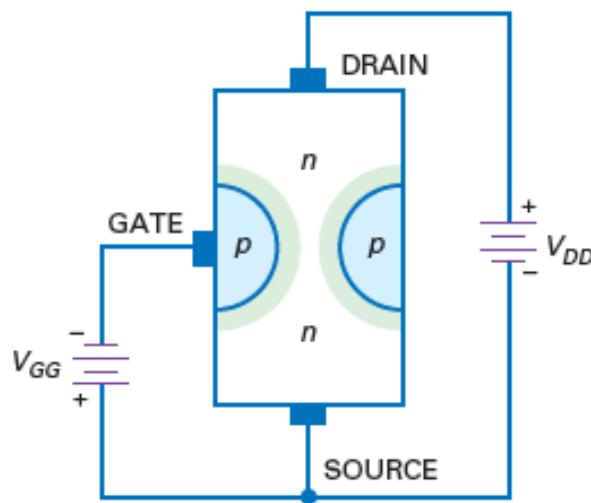

Figure-2 Normal biasing of JFET
- Figure-2 shows the normal biasing voltages for a JFET. The drain supply voltage is positive, and the gate supply voltage is negative.
- In Figure-2, the p-type gate and the n-type source form the gate-source diode. With a JFET, we always reverse-bias the gate-source diode.
- In Figure-2, electrons flowing from the source to the drain must pass through the narrow channel between the depletion layers. When the gate voltage becomes more negative, the depletion layers expand and the conducting channel becomes narrower. The more negative the gate voltage, the smaller the current between the source and the drain.
- The JFET of Figure-2 is an n-channel JFET because the channel between the source and the drain is an n-type semiconductor. Figure-3a shows the schematic symbol for an n-channel JFET. In many low-frequency applications, the source and the drain are interchangeable because you can use either end as the source or the other end as the drain.